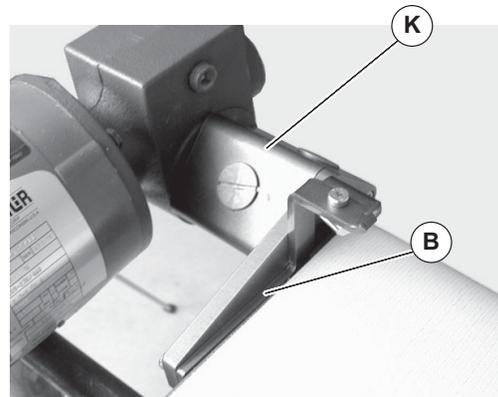

Figure 12
5. Install the gearmotor mounting package (Figure 12, item K) using the end stop bracket (B) in place of the mount spacer. See your drive mount accessory manual for additional instructions.